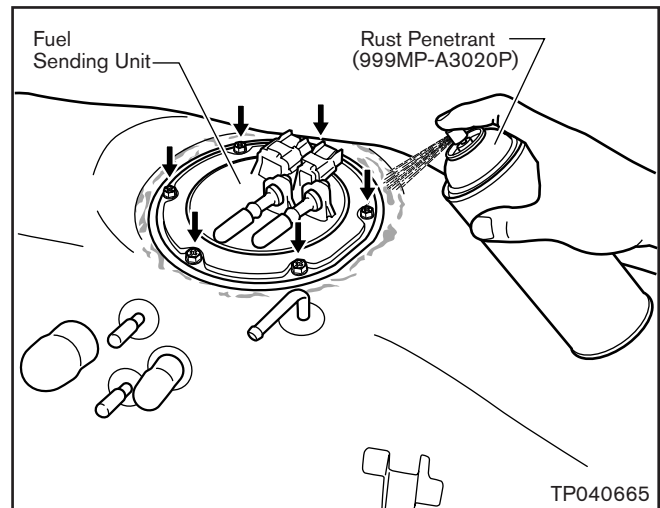

Figure 15
b. Then, apply Rust Penetrant (999MP-A3020P) to the Fuel Sending Unit Mounting Flange Bolts (see Figure 15). Allow the penetrant to “soak” for a few minutes.